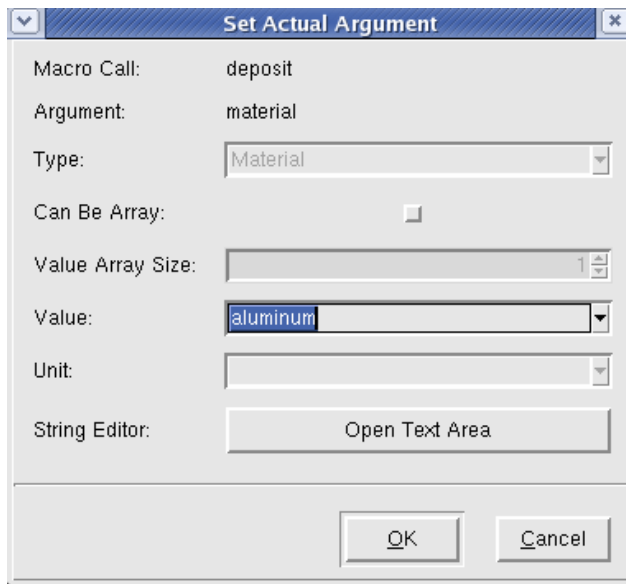
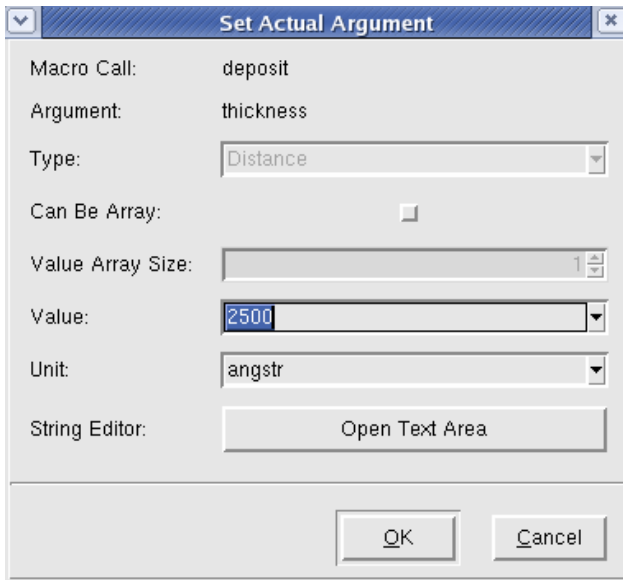

Figure 83: Deposit AL
Figure 84: Setting AL thickness.
19. Add an Aluminum Layer by adding a deposit step to the last etch step and setting the material to AL (Figure 83), and the thickness to 2500 Angstroms (Figure 84). Translate (Figure 85). Check and save the the flow and run in sprocess. View the results (Figure 86).